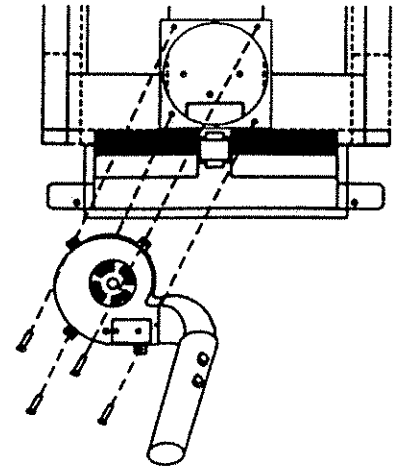

Fig. 31A
4. Remove the combustion blower by unscrewing the three fixing screws located on the top and the bottom of the blower housing. The blower can now be left to one side. (Fig.31A).